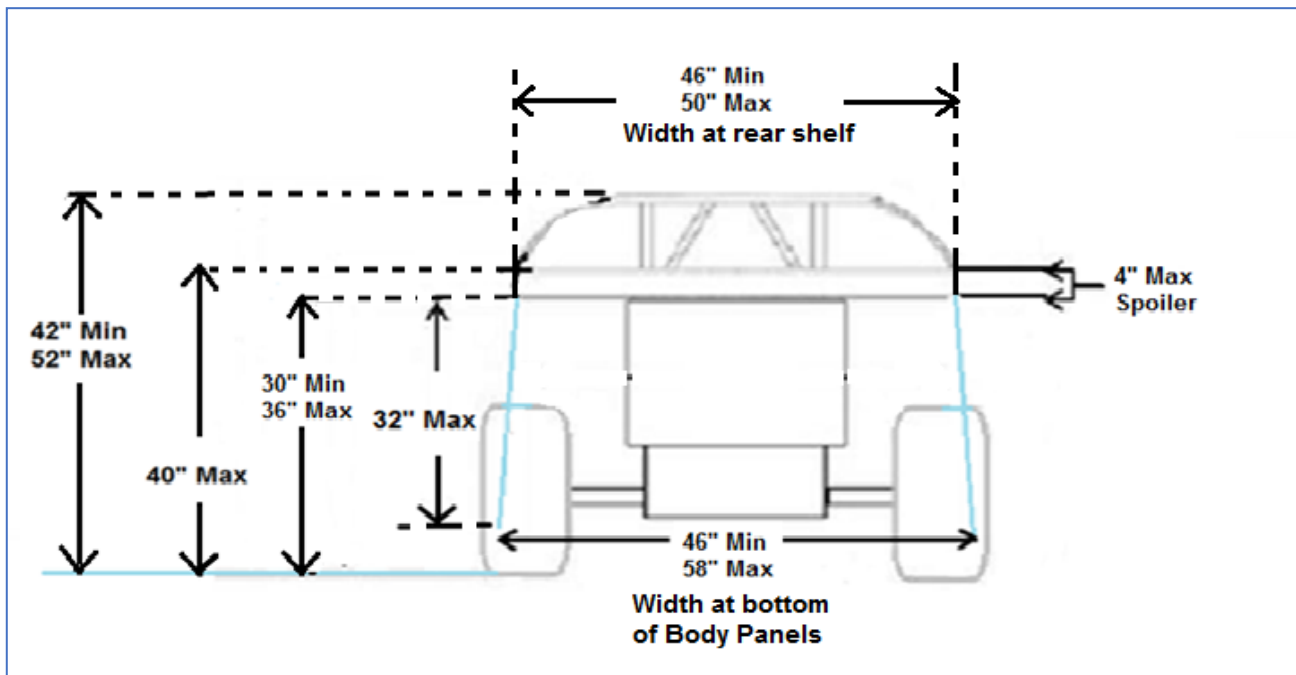

Figure 2
7.2 Width at rear shelf of body panels 46" min 50" max (*Figure 2*).
7.3 Width of body panels at lowest point: min 46" max 58" (*Figure 2*).